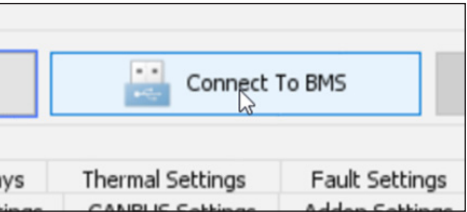

fig. 3 – Connect to BMS button in the Orion BMS Jr connection software.
- Open the Orion Software** – Launch the Orion BMS Jr. 2 software on your computer and click "Connect to BMS." (fig. 3)